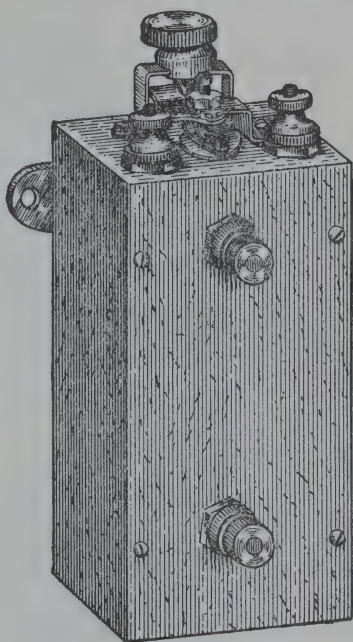

Fig. 63
24. *Spark Coil* (Fig. 63). — The automobile spark coil which we have already used is an electro-magnet.